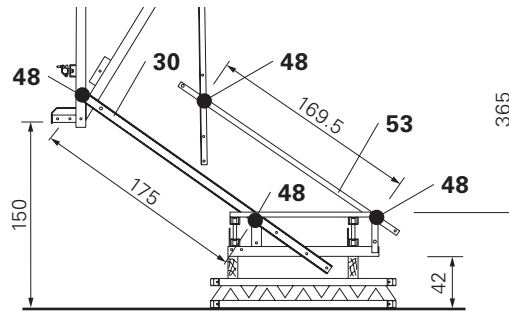

Fig. B1.26a
5. Fix the Guardrail Post CB 190 (53) or Guardrail Post 370 (54) to Guardrail Post CB 200 (50) forming an articulated connection using Bolts ISO 4014 M16 x 130-8.8 (48). Depending on the concreting height, use top or bottom hole. (Fig. B1.26a - d) Attach Tension Belt L = 5.70 m, 2.5 t (55). (See Section B1)
(Fig. B1.26a)